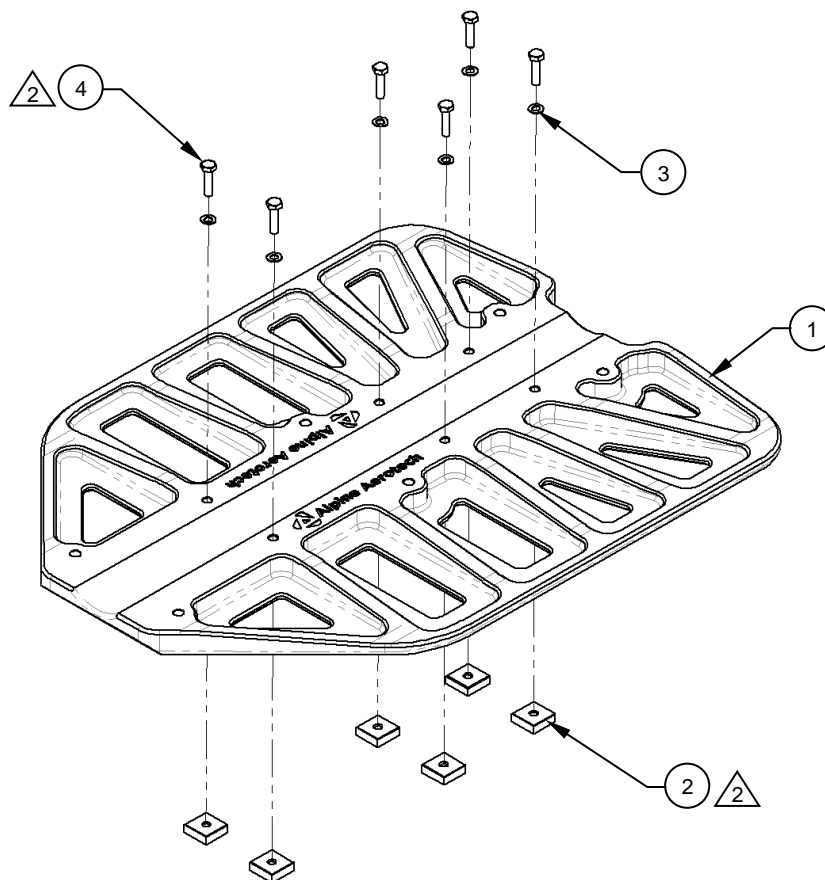

**Figure 3**
5. Remove the spring blade, Spacer, Detail (Item 13), the nuts and the Bolt, Details (Item 5). Reference Figure 3.
1. All replacement procedures associated to Dart skid tubes are the same as OEM skid tubes except for the following. Reference OEM Skid Tube Replacement Steps 1 through 7 and Figure 3.
2. With the aircraft raised Install the Spacer, Detail (Item 13) between the spring blade and its associated fitting using the provided Bolts (Item 5). Re-use the existing washers and nuts. Reference Figure 3.